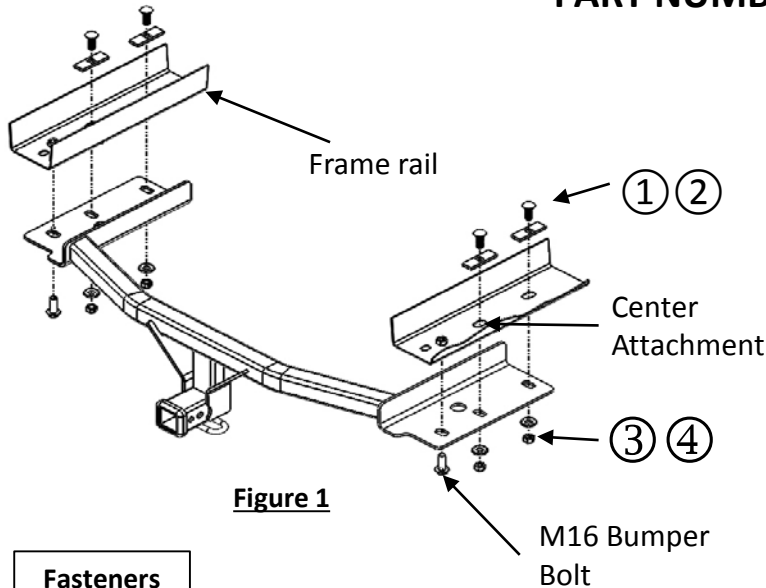

Figure 1
- Install hitch** – Using the supplied pullwires ⑤ install the carriage bolts ① and spacers ② into the vehicle frame through the center attachment, see **Fig. 4**, leave pullwires attached. Make sure weldnuts are free from rust and debris. Raise the hitch into position and align holes in hitch bracket to the frame rail weldnuts guiding the pullwire ends through holes in the hitch bracket and loosely reinstall the M16 bumper bolts removed in step 4. Remove pullwires, install conical washers ③ (teeth side toward hitch) and nuts ④, see **Figure 1**.
7. Install hitch – Using the supplied pullwires ⑤ install the carriage bolts ① and spacers ② into the vehicle frame through the center attachment, see **Fig. 4**, leave pullwires attached. Make sure weldnuts are free from rust and debris. Raise the hitch into position and align holes in hitch bracket to the frame rail weldnuts guiding the pullwire ends through holes in the hitch bracket and loosely reinstall the M16 bumper bolts removed in step 4. Remove pullwires, install conical washers ③ (teeth side toward hitch) and nuts ④, see **Figure 1**.